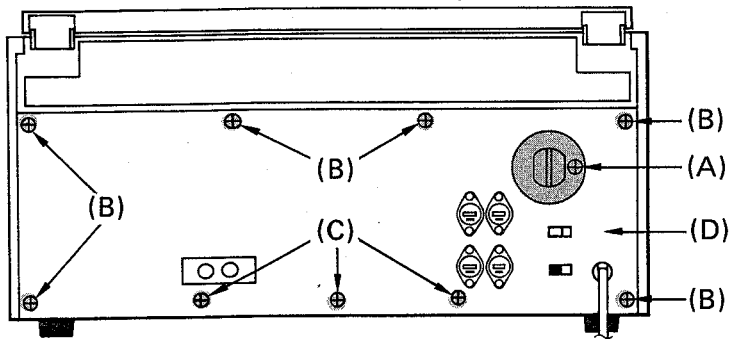

Fig. 1
1. Cover Decorate (A) located on the back of Cabinet and prize Changer Clamper through the hole. (Fig. 1)
1. Remove the screws (B and C) and pull out Cabinet Rear Panel (D) from Cabinet. (Fig. 1)